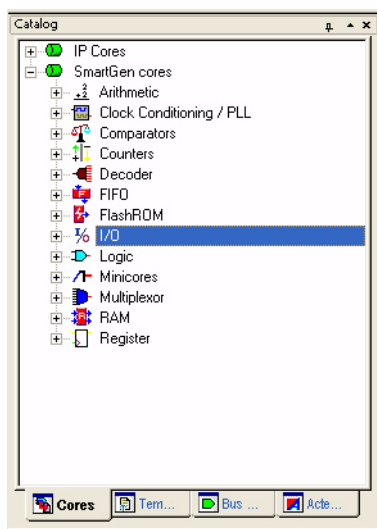

Figure 8-2 • SmartGen Catalog
2. On the left-hand side of the Catalog View, select I/O, as shown in Figure 8-2.